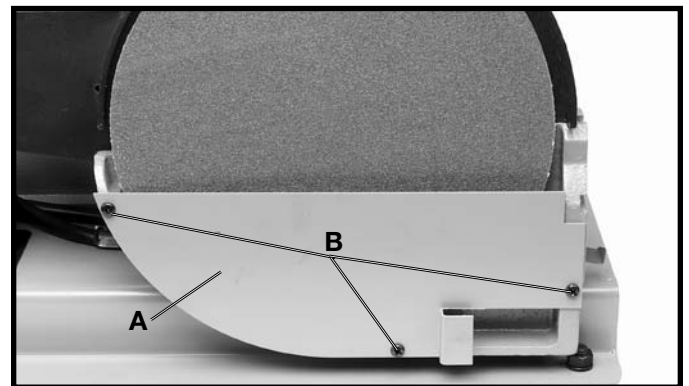

Fig. 11
2. Assemble the lower sanding disc guard (A) to the disc base using the three M4x.07x10mm cheese head screws (B), as shown in Fig. 11.